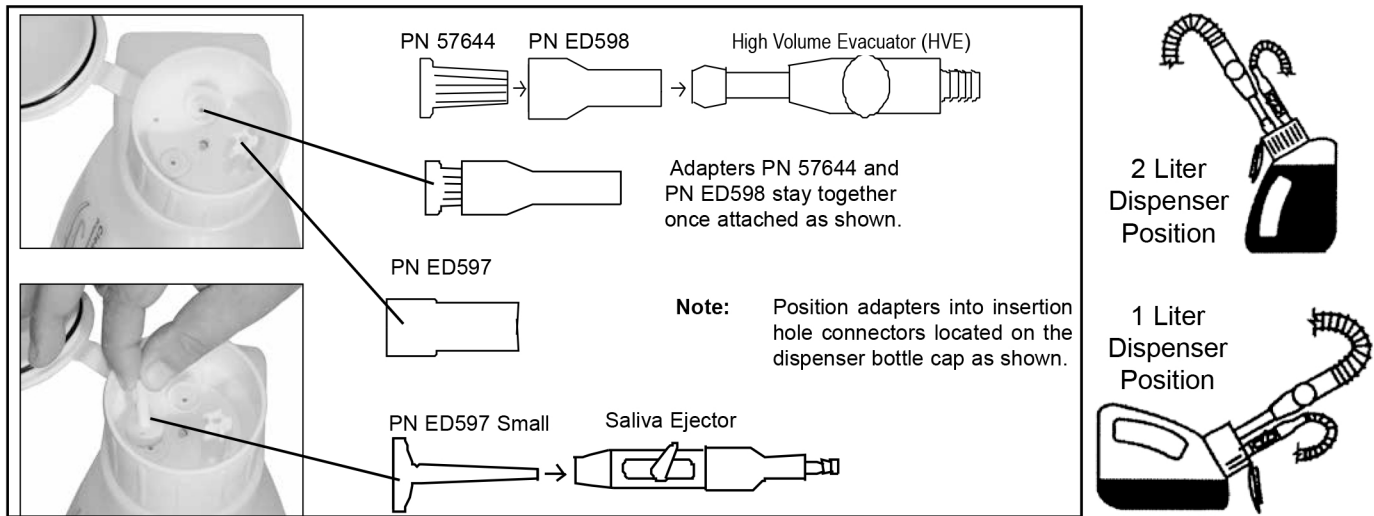

Figure 17. Clean Stream Dispenser Cap Adaptor Locations
4. Refer to Figure 17 and place dispenser in the 2-liter vertical position or the 1-liter horizontal position as necessary.